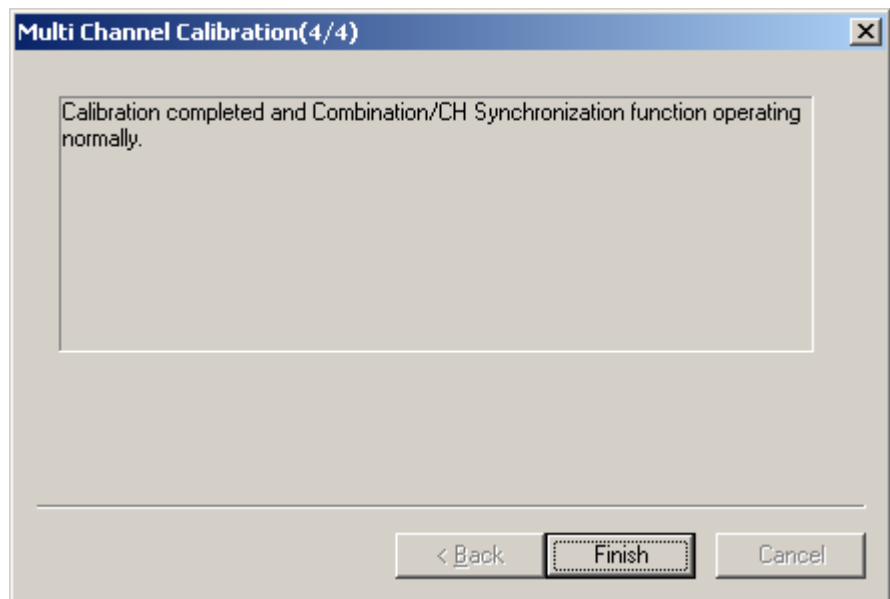

Figure 5.8-6 Multi Channel Calibration Screen 4
When the screen shown in Figure 5.8-6 appears, click [Finish] to complete the calibration.
- When the **Multi Channel Calibration** dialog box appears as shown in Figure 5.8-1, perform the calibration according to the description of Figure 5.8-1 through Figure 5.8-6.
(2) MU183021A, Synthesizer, and Jitter Modulation Source
4. When the **Multi Channel Calibration** dialog box appears as shown in Figure 5.8-1, perform the calibration according to the description of Figure 5.8-1 through Figure 5.8-6.